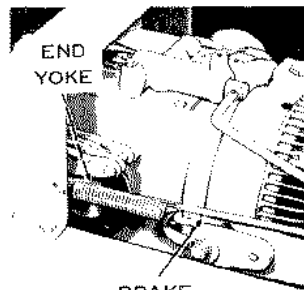

Figure 21
3. Lift seat; using one of the two holes provided, position adjusting blocks as shown in Figure 21 for the front two seat positions. To move seat back, rotate adjusting blocks 180 degrees, and use either of the two sets of holes provided.